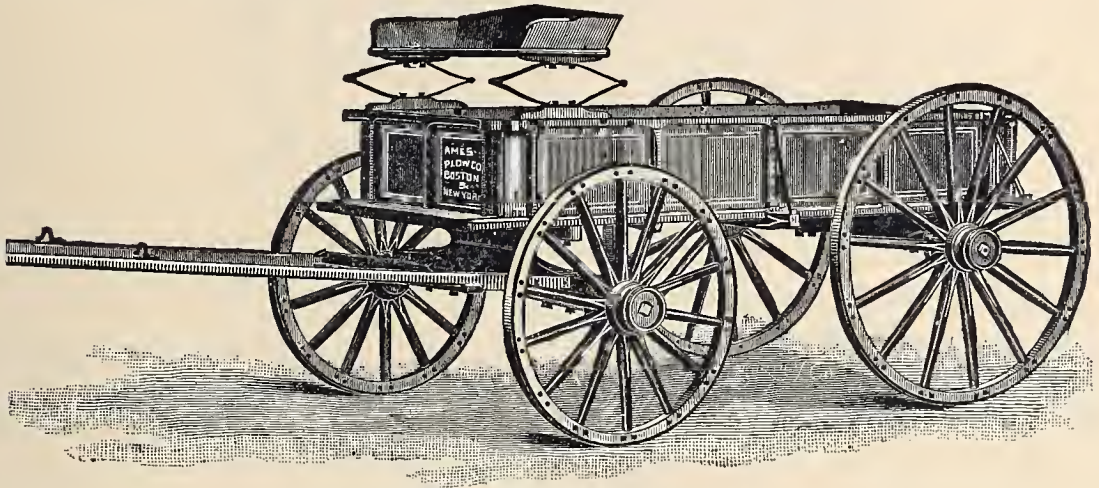

Fig. B 570.—Farm-Wagon.
*The Farm Wagon.*—The FARM-WAGON, shown at *Fig. B 570*, is for one horse. This is a first-class panel body wagon, and material, workmanship, and finish are of the best. We also make a two-horse wagon on same lines. These can be constructed to order, of any weight, with any size of axles, body, and width of track desired. The extra shifting side-boards, and the hay rigging, as described under carts, can be used on these wagons.